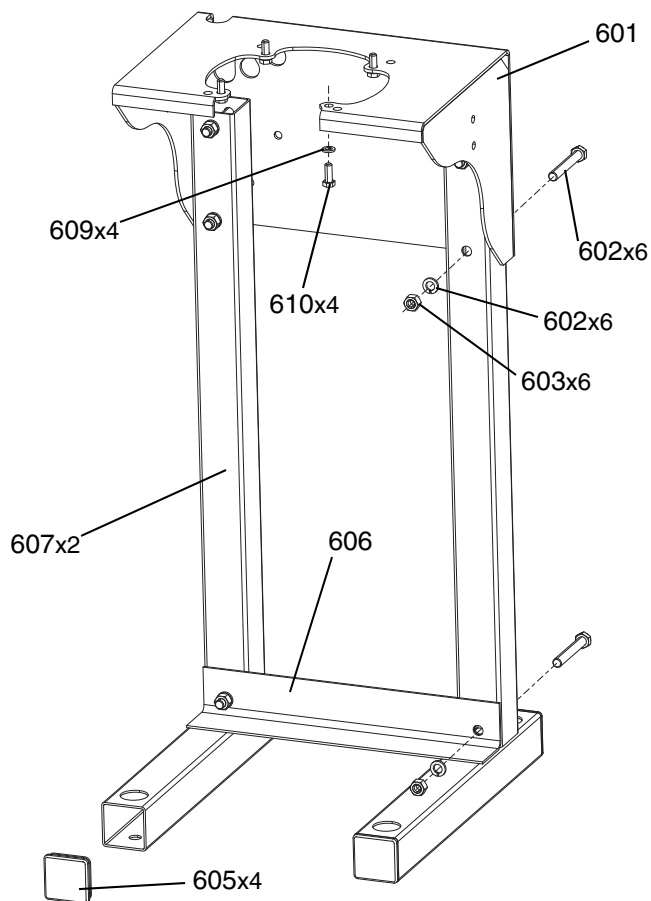

FIG. 25: Pump Stand
1. Assemble the stand as shown in **Figure 25**.